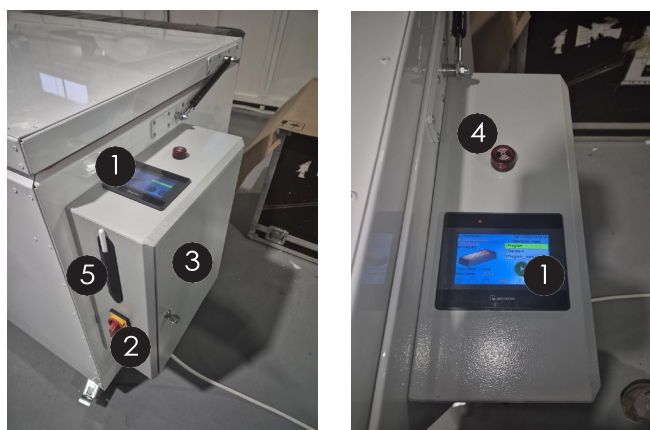
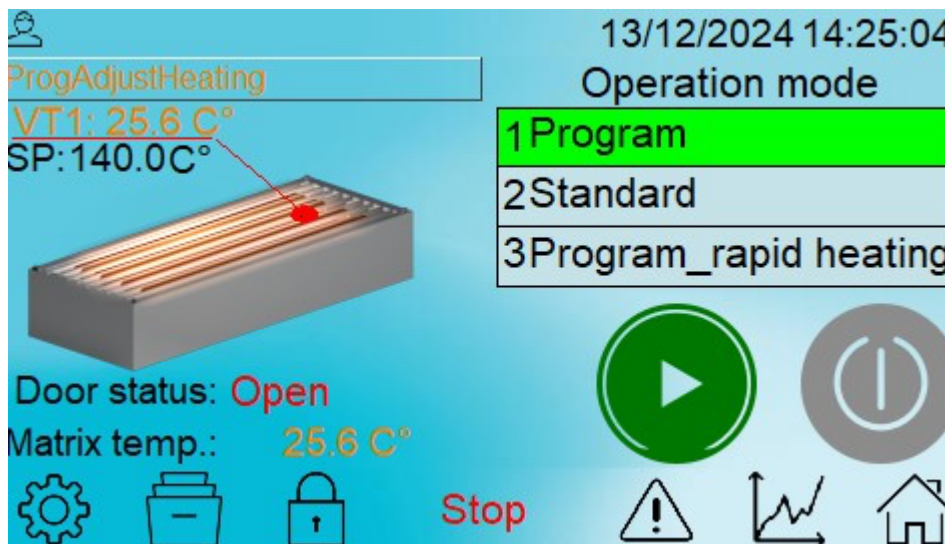

Figure 16. Panel with Toggle Switch and controller.
Figure 17. Working Screen
An electrical panel is installed on the side of the Polymerization Ovens' outer casing, with the controller and audible-visual alarm located on top, and a Toggle Switch and stylus on the side (Fig. 16).
7. On the control panel (Fig. 16, item 2), set the toggle switch to position 1.
8. Select the required program on the controller (Fig. 16, item 1); see chapter 6.
Power on the Polymerization Oven OVEN-xxx-xxxx by turning the Toggle Switch knob (Fig. 16, item 2) clockwise to the «1» position. Upon loading, the Working Screen is activated on the controller panel (Fig. 17).